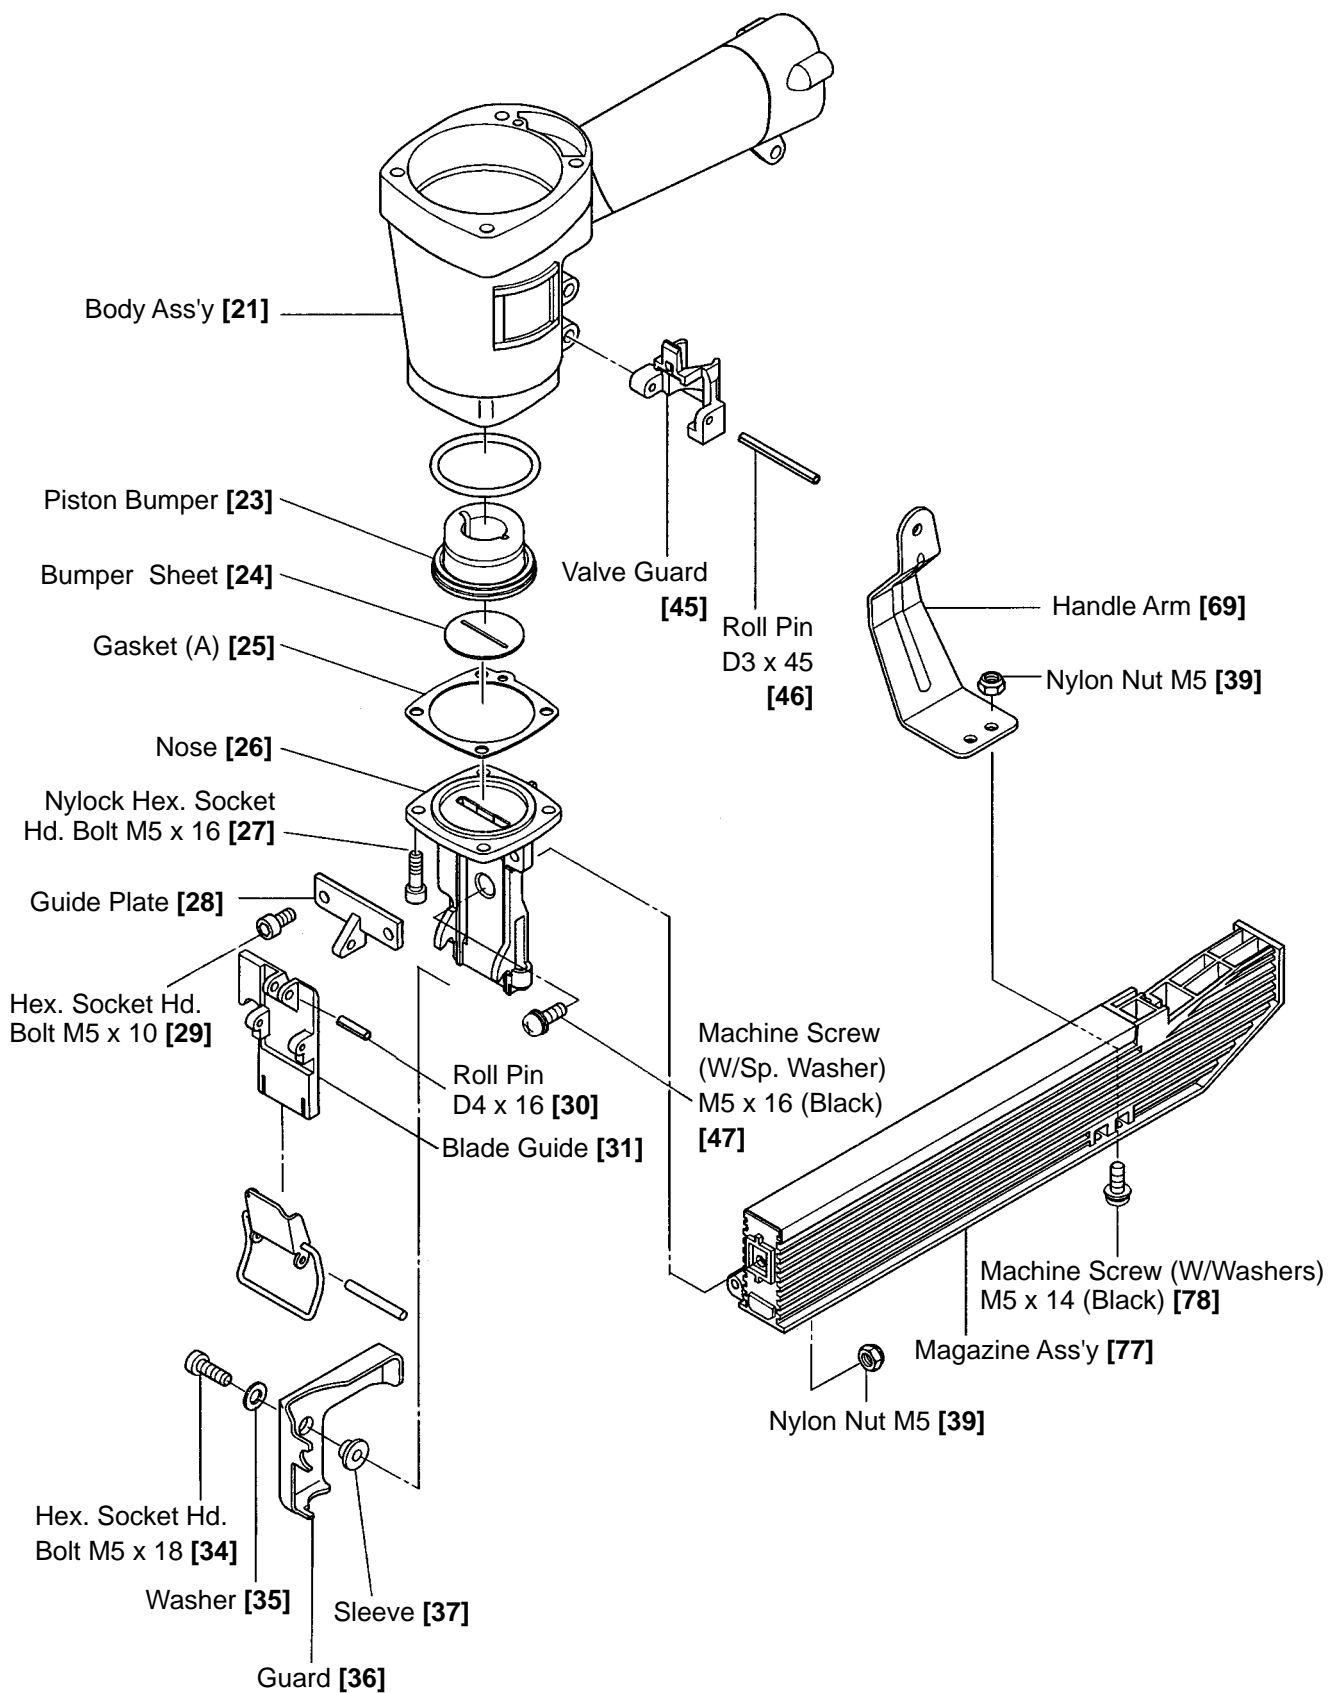

Fig. 13
(3) Piston Bumper [23] and the related parts (See Fig. 13.)